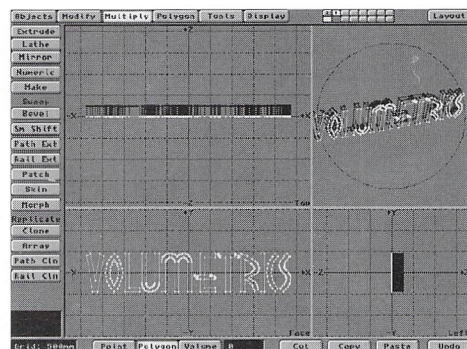

Figure 2: Copying the front face to a new layer
- Using the right mouse key, lasso-select all the polygons on the front face, and copy and paste them in a different layer (Figure 2). Extrude this in the -Z direction, away from the logo itself, a